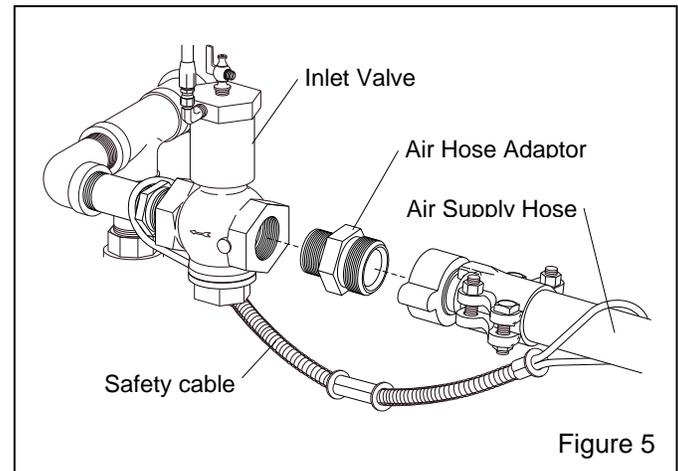

Figure 5
**2.5.1** Apply thread sealant to the male pipe threads of an air fitting that is compatible with the air supply hose fitting, as noted in Section 2.5.2, and install it onto the inlet valve or optional air filter located at the blast machine inlet, as shown in Figure 5. The style of connection shown in Figure 5 is for reference only.